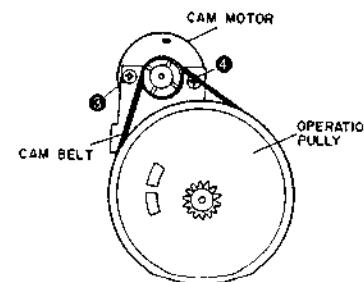

Fig. 3-9
- 5) Remove cam motor securing screws ④ and ④. (Refer to Fig. 3-9.)